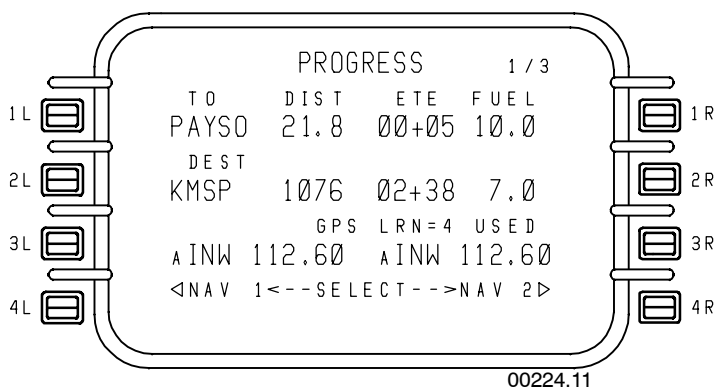

Figure 3-7
- **Progress (PROG) Key** – Pressing the PROG key displays the first progress page. This mode shows the current status of the flight. The first progress page displays the Estimated Time Enroute (ETE), distance to, and fuel projection for the TO waypoint and destination. It also displays the current NAV mode, the number of long range NAVs used, and the navaids that are presently tuned. A typical progress page is shown in Figure 3-7. Refer to Progress (page 8-1) for additional details.